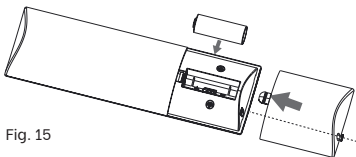

Fig. 15
- Insert the supplied battery (Battery Type: 23A 12V) into the battery compartment aligning with polarity indicator markings (+/-) (Fig.15).